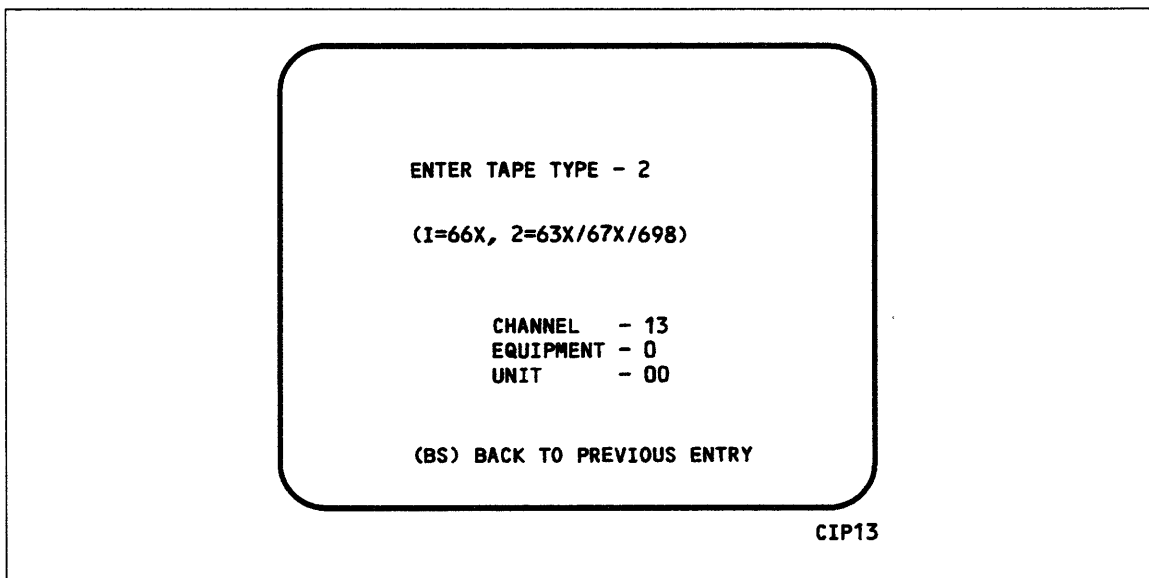

Figure 2-17. Path Select Display
- V INSTALL NOS/VE BOOT PROGRAMS. Select this option to install or replace the VE boot programs to the CDA on the CIP device. When you specify the V option, figure 2-17 appears. Enter the path to the device you want the VE boot programs installed on.